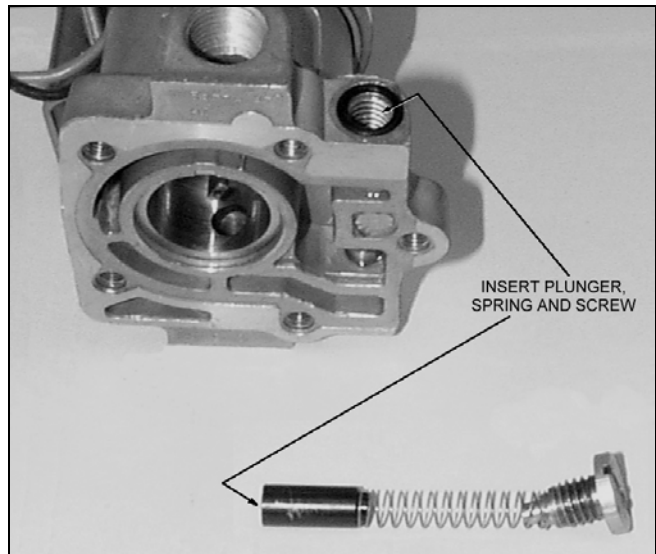

Figure 6
7. If the relief plunger is rusty, clean it with emery paper. The plunger must slide freely in the base. Check the plunger, spring, and o-ringed screw. Check that plunger is free in the slide. See Figures 6 and 7.